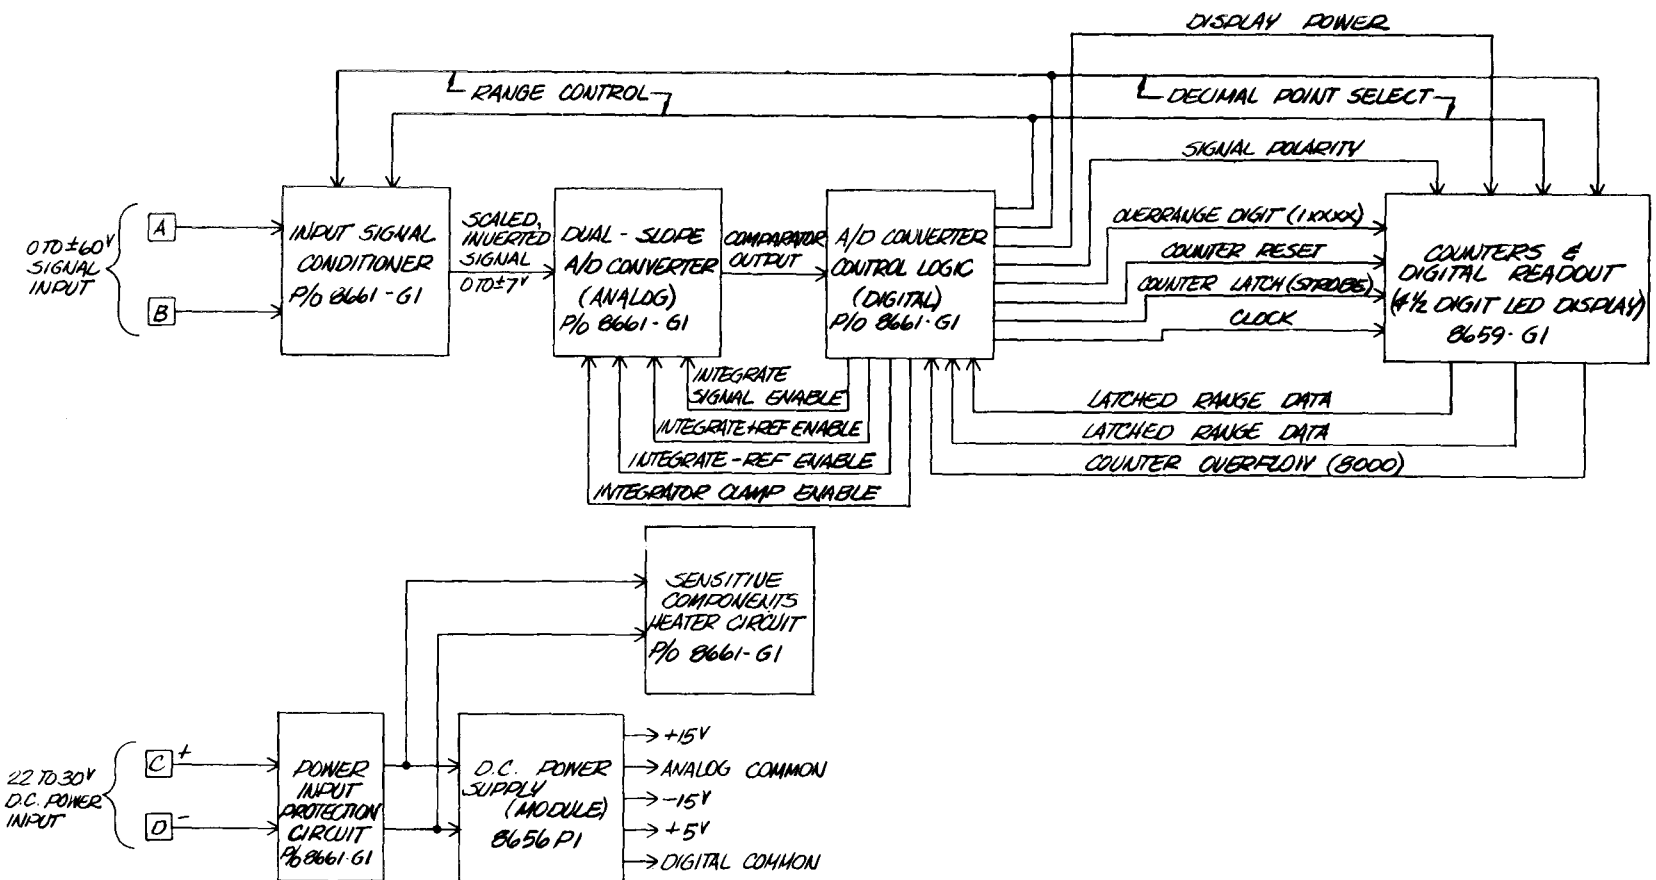

Figure 3 Block Diagram
A detailed understanding of the unit block diagram (figure 3) and timing diagram (figure 4) is essential to troubleshooting the Model 2340. Study the material provided under Block Diagram Description and Timing, including the schematic (figure 5) before initiating troubleshooting procedures.
3.2 BLOCK DIAGRAM (Figure 3)